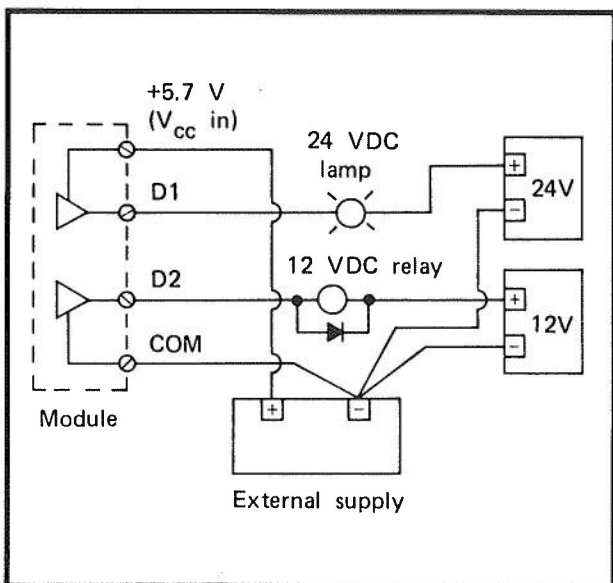

Figure 10 — Low-Voltage Lamp, Relay Connections
11. A typical connection diagram for low-voltage (5 to 30 VDC) lamps and relays is shown in Figure 10. Note that the DC common (–) terminal of the external power supply must be connected to the output device supply's DC common terminal. In this type of application, it is usual to select low/true logic so that the lamp or relay is energized when the output bit in the processor is energized (Logic "1"). (The contact sinks on this module.)
When driving an inductive load, some form of overvoltage protection must be provided for the module's output transistor. See Figure 10 where a diode is placed across the relay in a typical arrangement. Here the component suppresses the "opposite polarity" spike induced by the coil of the relay.